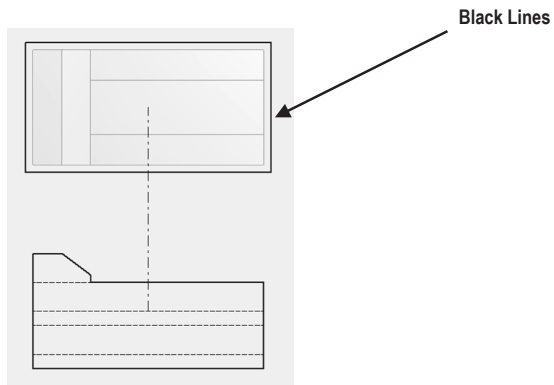

Figure 19
24. Notice the black lines around the top view as shown in Figure 19. This indicates that the view has been placed.